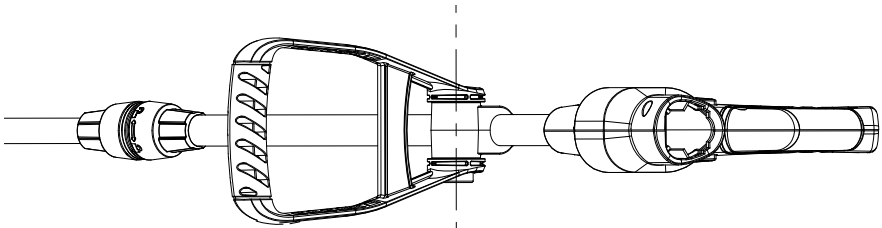

figure 4-b
Press and hold the lock button (1), then adjust the handle. When it is in desired position (2), release the lock button. (fig.4-c)